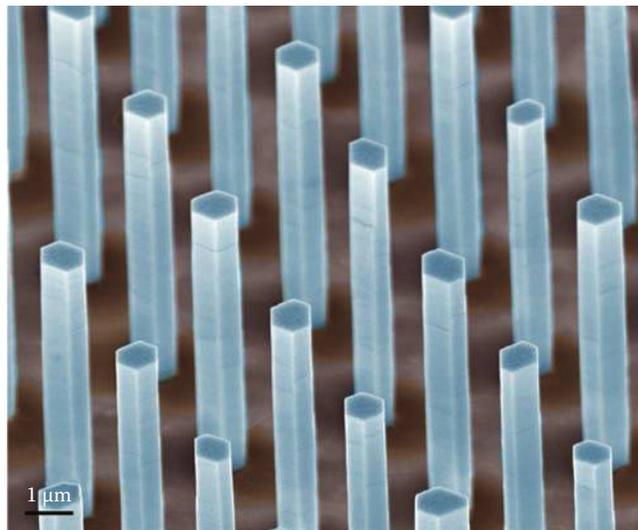

FIGURE 13.31
- Large-scale array of ZnO nanowires synthesized using a solution method that can enable high-volume manufacturing of large-scale one-dimensional nanostructures on various substrates for applications in energy harvesting, sensing, optoelectronics, and electronics (Figure 13.31).